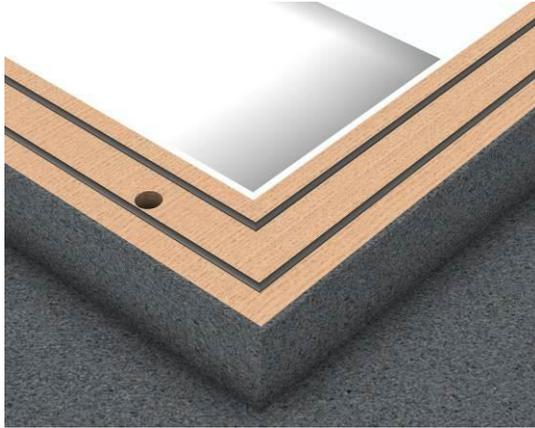

Figure 3 - Silicone placement
2. Apply two large runs of silicone (supplied in installation kit) approximately 50mm in from the inner and outer faces of the kerb as shown below (*Figure 3*).